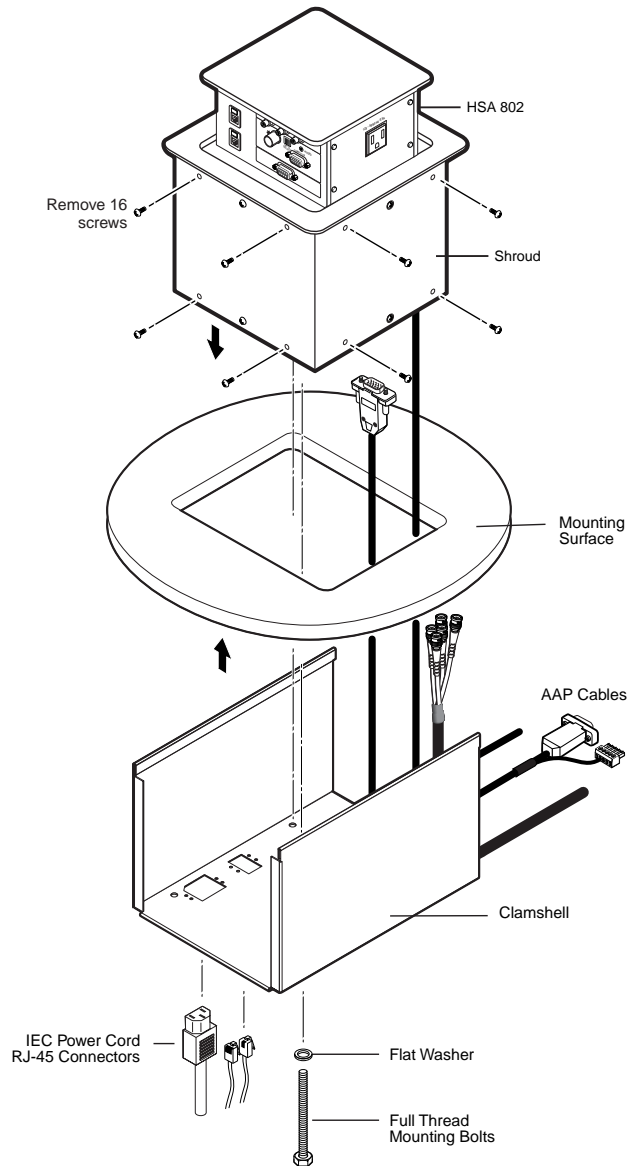

Figure 3-3 — Removing the HSA 802 from the table
5. On the underside of the table, remove the two bolts that secure the clamshell to the surface mount enclosure (figure 3-3). Lift the enclosure out of the table.